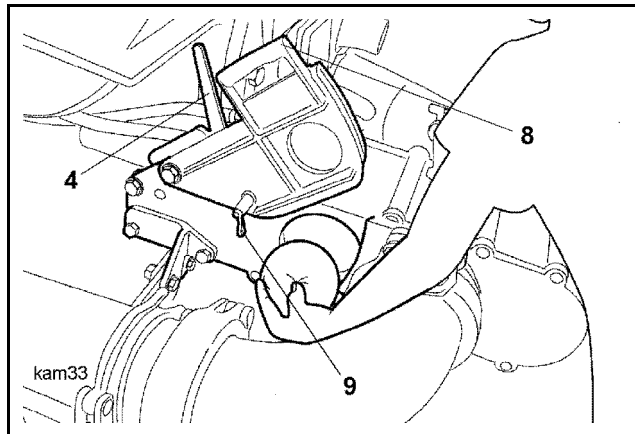

Fig. 600
- Push a damp, hard cleaning ball into the chamber (**Fig. 600**).
- Release the toggle (9) (**Fig. 600**) again so that the flap (8) can be closed.
- Close the flap (8).